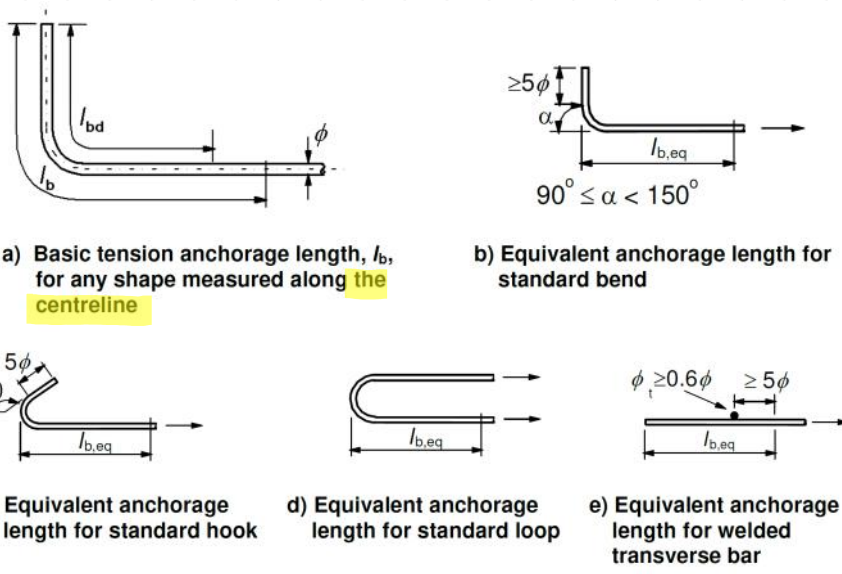

Figure 8.1: Methods of anchorage other than by a straight bar
(2) Methods of anchorage are shown in Figure 8.1 (see also 8.8 (3)).
(3) For bent bars the basic anchorage length, l_b , and the design length, l_{bd} , should be measured along the centre-line of the bar (see Figure 8.1 a).
α_1 is for the effect of the form of the bars assuming adequate cover (see Figure 8.1).
(2) As a simplified alternative to 8.4.4 (1) the tension anchorage of certain shapes shown in Figure 8.1 may be provided as an equivalent anchorage length, $l_{b,eq}$. $l_{b,eq}$ is defined in this figure and may be taken as: